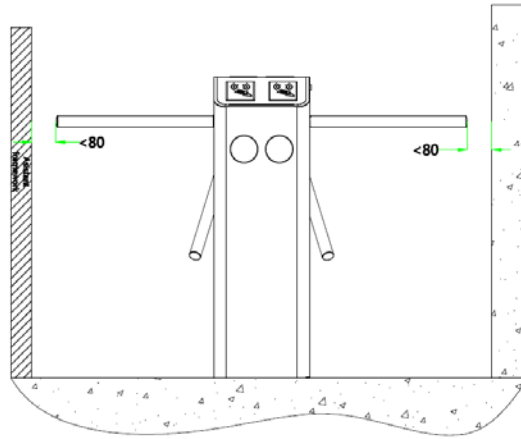

Figure 3-1
You are suggested to install an assistant framework or fence to form a passageway, as shown in Figure 3-1.
1. The space at the end of the arm shall not be greater than 80mm (see Figure 3-1).